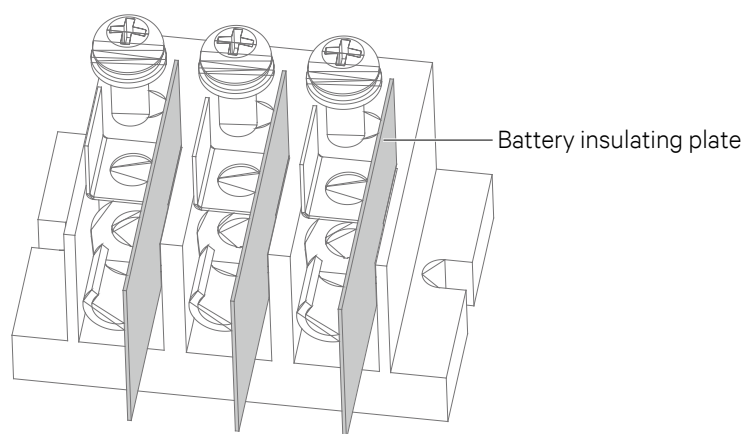

Figure 2-27 Installing battery insulating plates (16kVA/20kVA)
1. First crimp the user external cable on the battery terminals, Figure 2-27 shows the OT terminals.